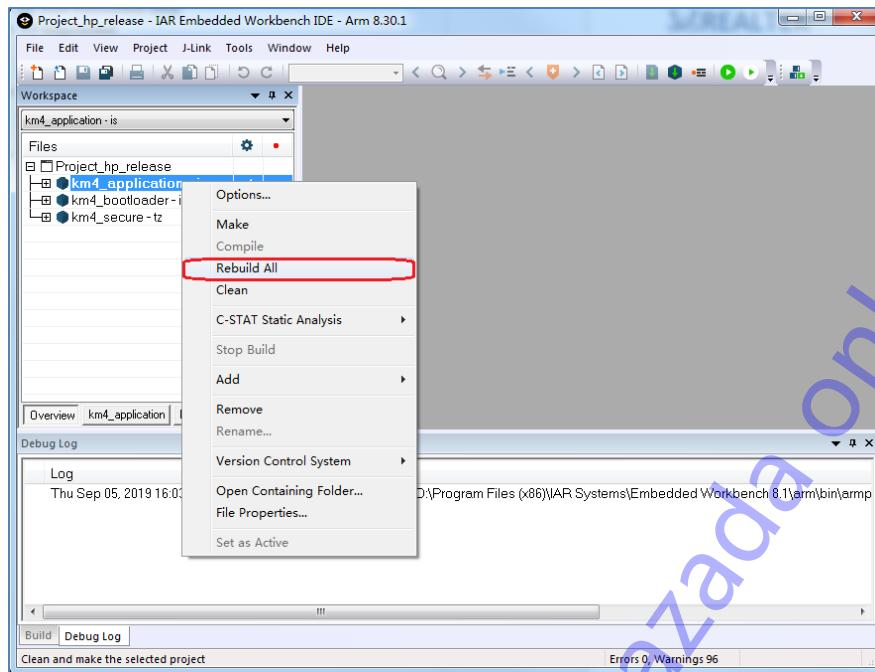

Fig 6-10 Building KM4 project
**Note:** If you have installed IAR version 9.xx or above from official website, click Tools > Option > Project, and make ensure the setting "Make before debugging" is set to "Never" before executing step (4).
- (4) Right click the project and choose "Rebuild All", as Fig 6-10 shows. The km4\_bootloader, km4\_secure and km4\_application should compile in order.